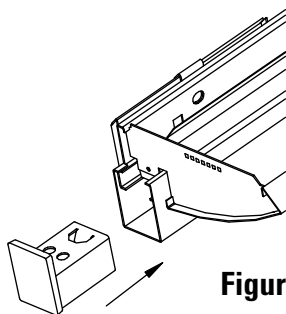

Figure 8
- A. Slide the end cap assembly into each end of the run. (Fig. 8)